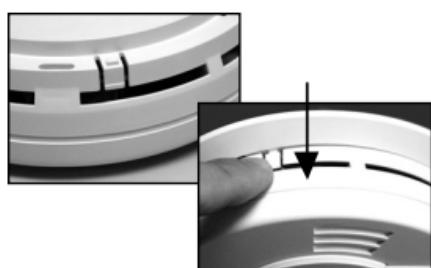

FIGURE 8
7). When the posts are broken off, the tamper resist on the base is allowed to engage the mounting bracket. Rotate the alarm onto the mounting bracket until you hear the tamper resist tab snap into place, locking the alarm on the mounting bracket. Using the tamper resist feature will help deter children and others from removing the alarm from the bracket. NOTE: To remove the alarm when the tamper resist tab is engaged, press down on the tamper resist tab and rotate the alarm in the direction indicated by the arrows on the cover of the alarm (see figure 8).